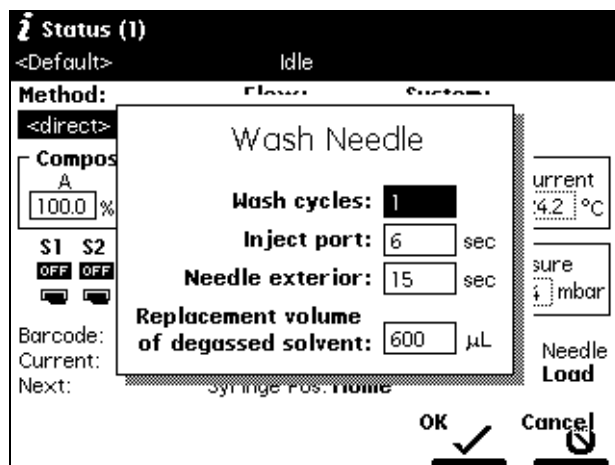

Figure 2-7 Wash Needle Dialog Box
3. Select **Wash Needle**, then press **Enter**. The Wash Needle dialog box appears (Figure 2-7).